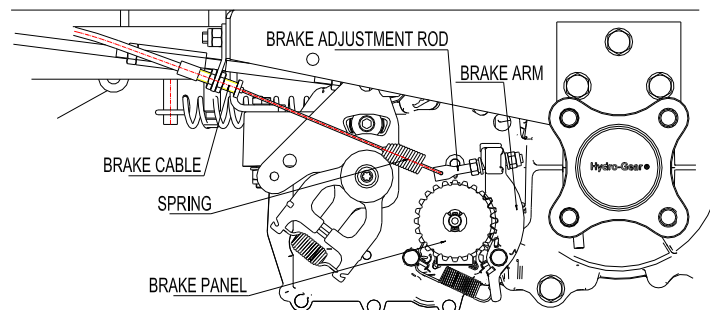

FIG 8 Brake Adjustment
- c) See FIG 8. Gears in the brake arm meshed into the gears of the brake disk. Adjust the nut on the spring adjustable lever. Ensure that the spring has an extension of 1/2"(12mm) when it is in the free state. Use the same method to adjust the brake adjustable lever.